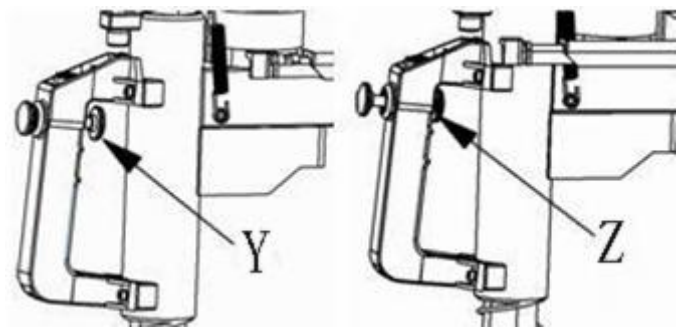

Fig 4-16
Position the lock press button at the position (Fig4-16 Y) to release the lock of the tool arm M.
5.2.2 Move the tool arm downwards making the tool head above the rim. Position the lock button at the position (Fig4-16 Z) to lock the entire tire demounting assembly.